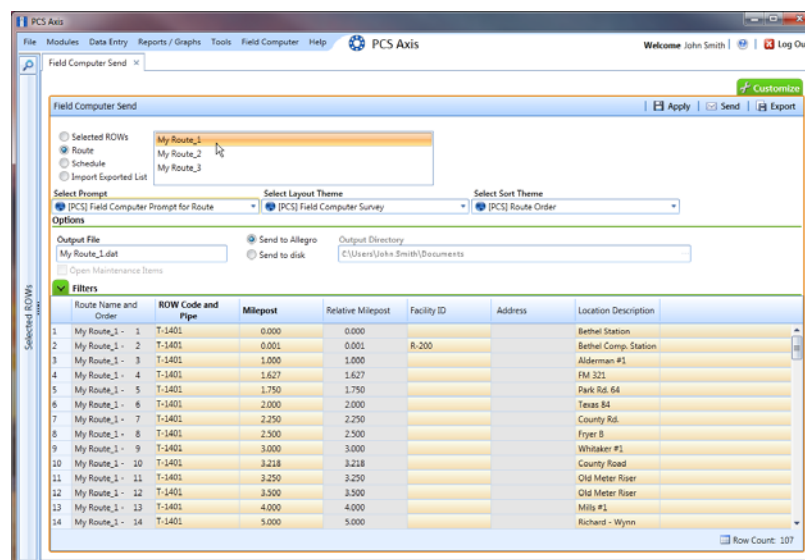

Figure 7-36. Field Computer Send
- 18 Click the **Route** option and select a route in the selection box. Then click  **Apply** to update the grid (Figure 7-36).
- a Click the  **Filters** tab to open the *Filters* panel (Figure 7-36, page 320).